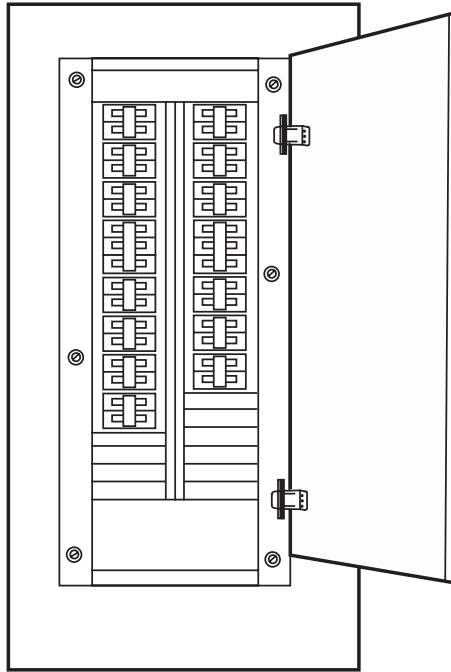

Figure 6. 120V Distribution Panel No. 2
- f. 120V distribution panel No. 2 (figure 6), located in the 01 level vestibule passageway, starboard side.